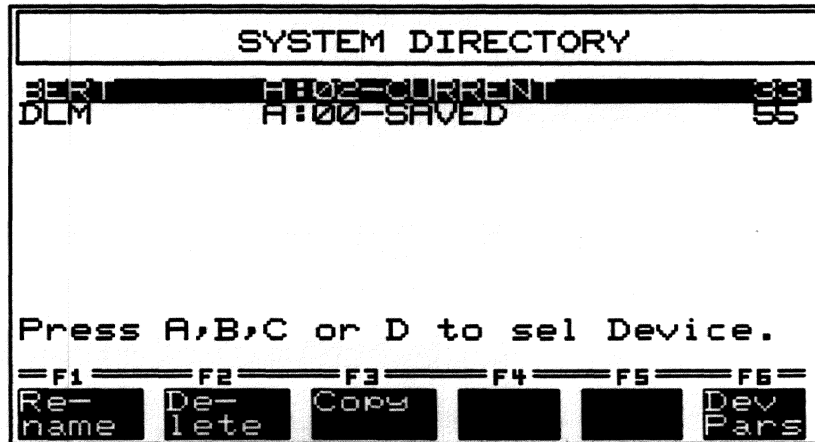

Figure 14-10 INTERVIEW 20 Plus disk System (file) Directory.
- For INTERVIEW 20 Plus: The screen repaints to reveal file listings for all files stored on the disk. For the INTERVIEW 20 Plus, as shown in Figure 14-10, there are three columns. The first column lists the instrument type for the file named on the same line and the size of the file is listed in the final column. The second column contains three pieces of information: